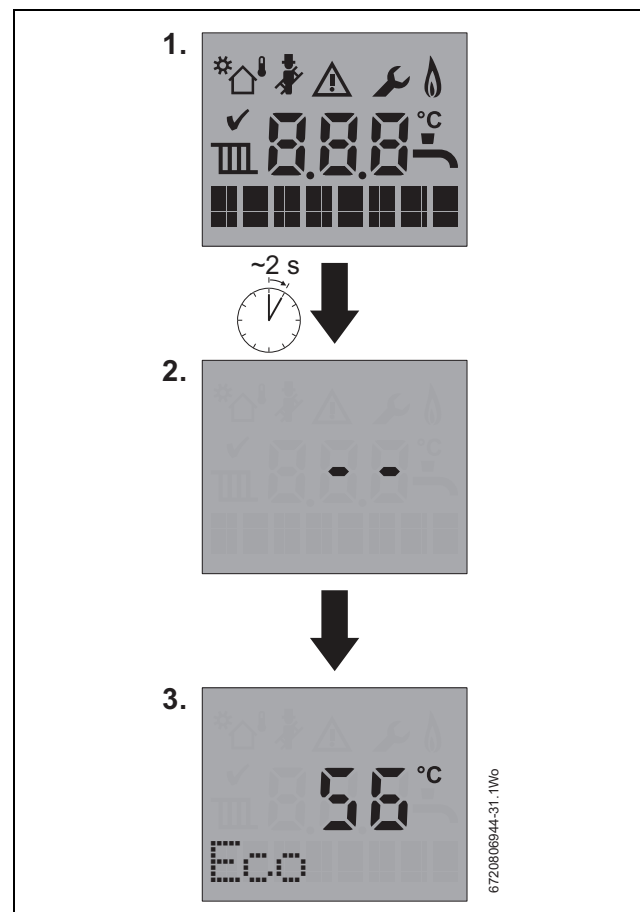

Fig. 44 Appliance start up screen
- ▶ Turn on mains power, initially the “Appliance start up screens” will be displayed (→ figure 44).